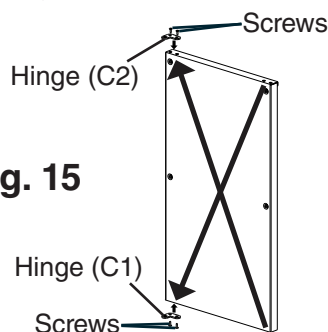

Fig. 15
- f) Remove hinge (C1) from the top right part of the door, flip it and reattach to the bottom left. Remove hinge (C2) from the bottom right part of the door, flip it and reattach to the top left. See Fig. 15. Proceed to step 7.